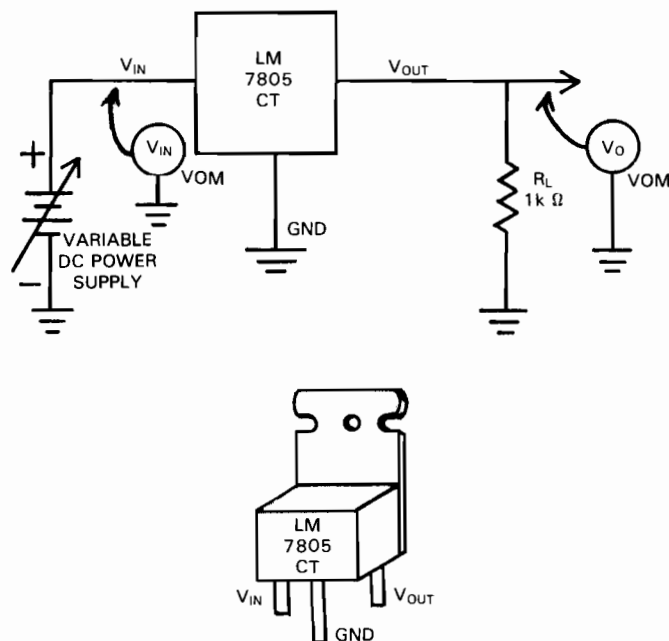

Fig. 15-6-1
1. Construct the three-terminal fixed voltage regulator of Fig. 15-6-1. The dc input voltage for this circuit is developed by a variable power supply.